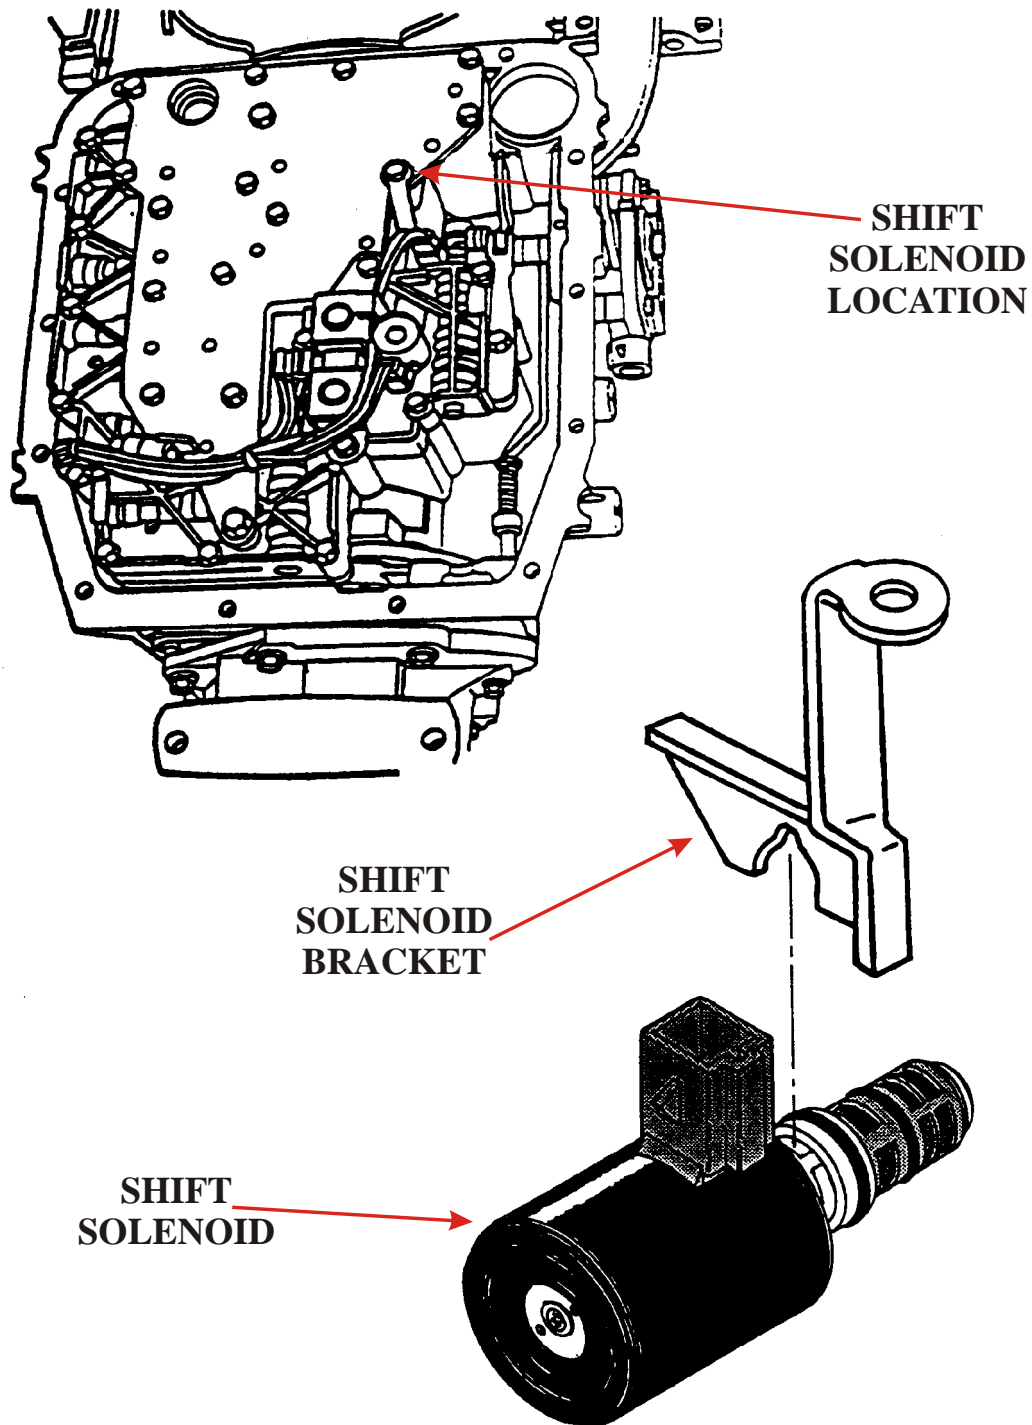

Figure 1
CORRECTION: **NUMBER (1)** - There is now a New Design EPC Solenoid available under OEM part number F3AZ-7G383-A. ALWAYS replace the Electronic Pressure Control (EPC) Solenoid with the new design, and ensure that retaining bracket is secured in the proper position. The retaining bracket must be installed with the "Fork" of the bracket over the body of the EPC solenoid, and the bracket secured with valve body bolt in the location shown in Figure 1. The EPC Solenoid may have to be repositioned slightly for "Fork" of the bracket to engage in the proper position. Refer to Figure 1. Manual shaft lever must be removed from the case to replace the EPC Solenoid.